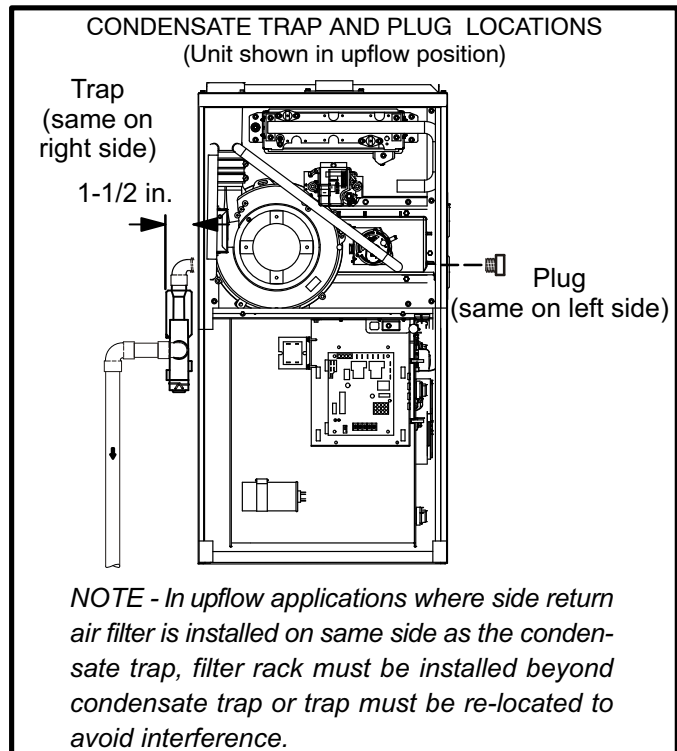
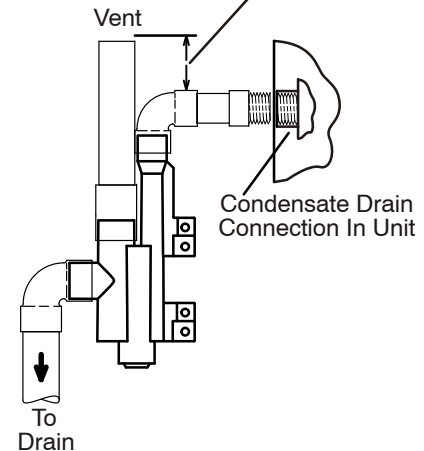

FIGURE 45
FIGURE 49
This unit is designed for either right- or left-side exit of condensate piping in upflow applications. In horizontal applications, the condensate trap must extend below the unit. An 8" service clearance is required for the condensate trap. Refer to figure 45 for condensate trap locations. Figure 49 shows trap assembly using 1/2" PVC or 3/4" PVC.
- 2 - Remove plug (figure 45) from the cold end header box at the appropriate location on the side of the unit. Install field-provided 1/2 NPT male fitting into cold end header box. Use Teflon tape or appropriate pipe dope.
- 3 - Install the cap over the clean out opening at the base of the trap. Secure with clamp. See figure 49.
- 4 - Install drain trap using appropriate PVC fittings, glue all joints. Glue the provided drain trap as shown in figure 49. Route the condensate line to an open drain. Condensate line must maintain a 1/4" downward slope from the furnace to the drain.